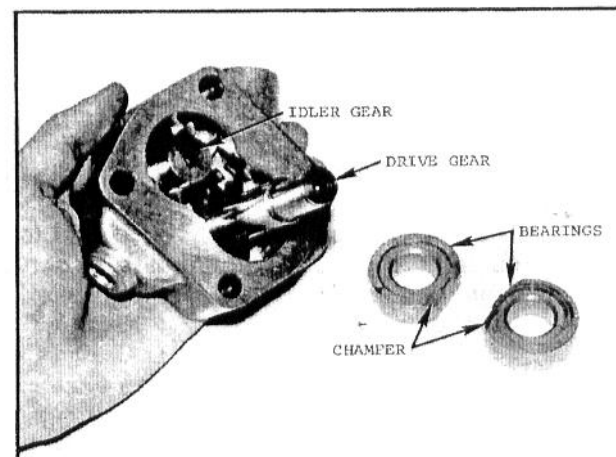

FIG. 7 — CENTER BODY DISASSEMBLED
1. Coat bearings, gears and center body with clean hydraulic oil. Install two bearings into the center section so the chamfer will be next to the gears. See Fig. 7.